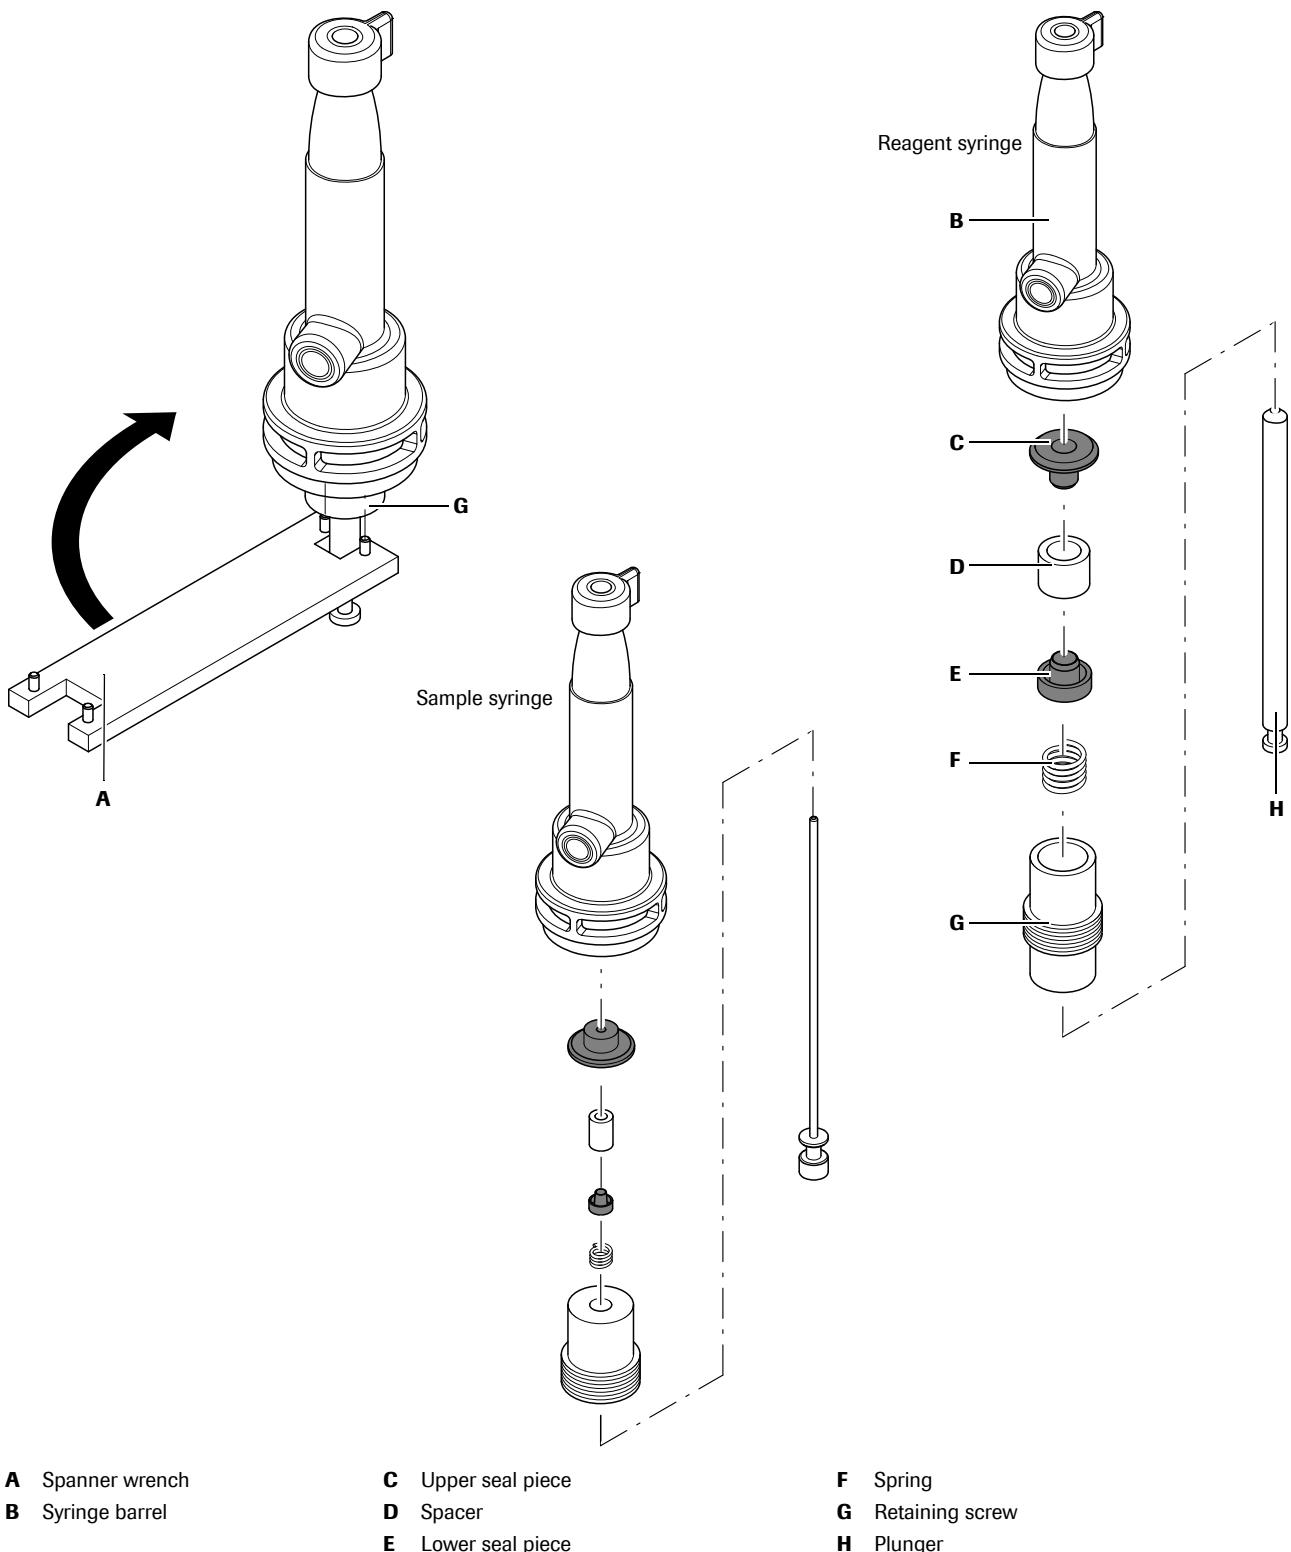

Figure C-41 Replace the syringe seals
- 4 Mount the retaining screw, spring, new lower seal piece, spacer, and new upper seal piece onto the plunger as shown in Figure C-41.